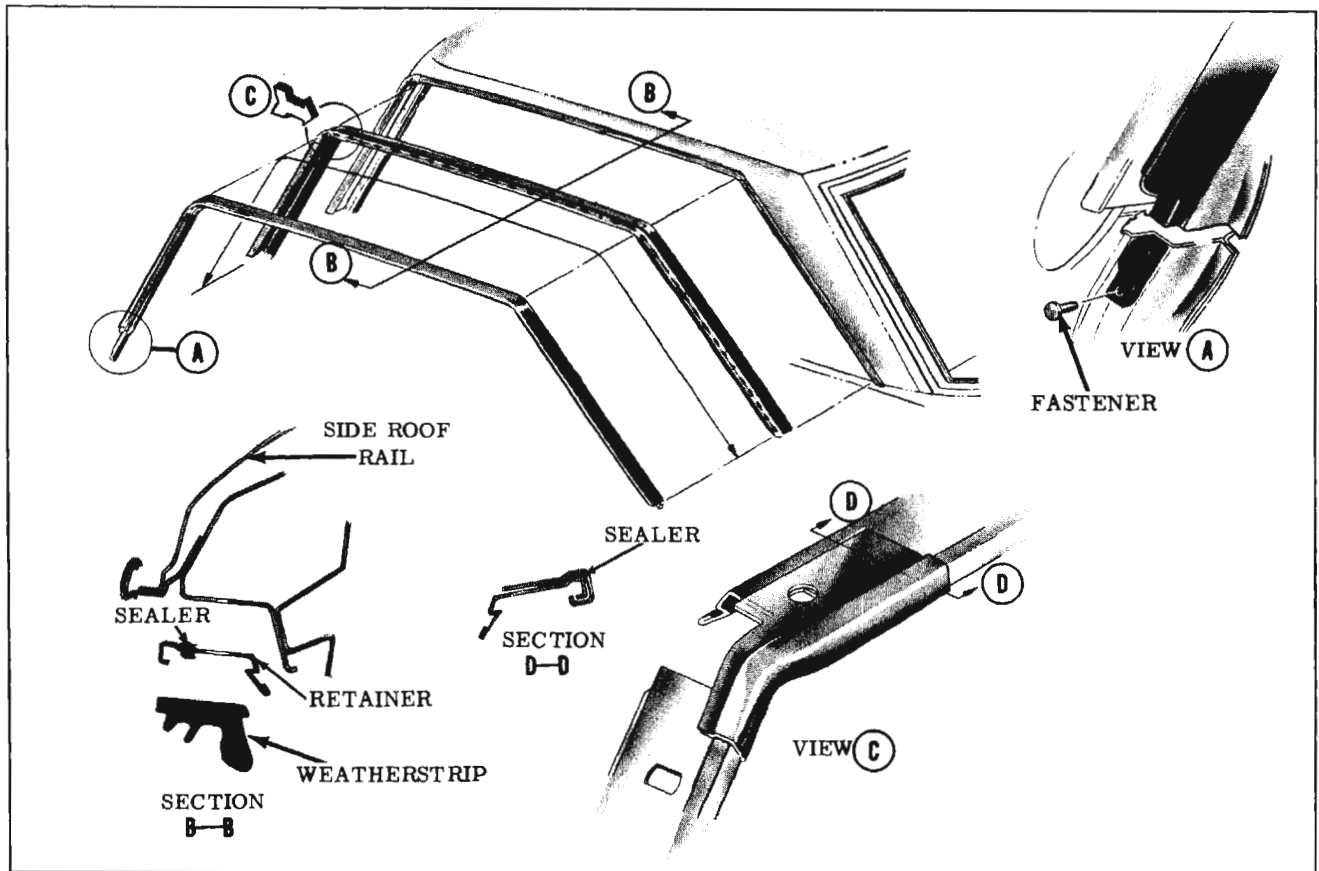

Fig. 16-262 Side Roof Rail Weatherstrip (47 Styles)
2. Apply weatherstrip cement at section joint in retainer as shown in view "C" of Fig. 16-262.
3. Apply a continuous bead (approximately 3/16" diameter) of weatherstrip adhesive along entire outboard surface of side roof rail weatherstrip retainer (section "B-B" in Fig. 16-262).